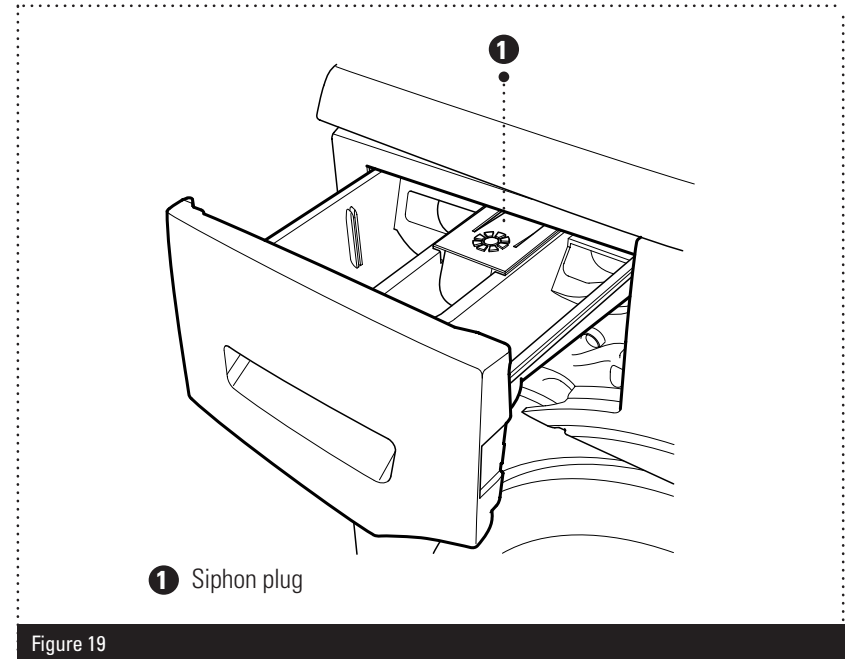

Figure 19
- 2 Press down on the siphon lid (fig 19) and pull the drawer from its housing.